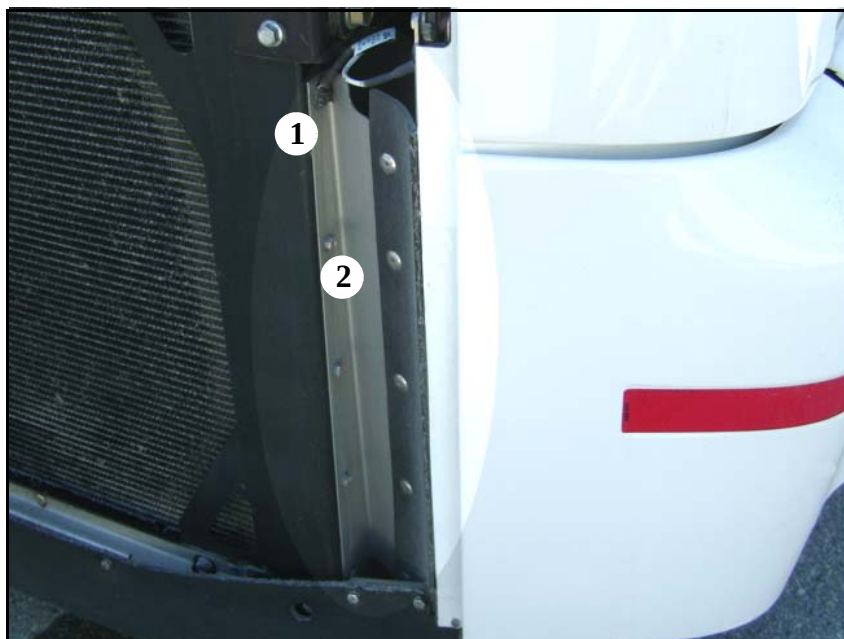

Figure 6. Radiator closing panel strip assembly.
15. Push to secure the radiator compartment door in the open position. Locate the closing panel strip assembly and ground cable shown in Figure 6. Remove and retain the closing panel strip assembly mounting hardware. Carefully remove the closing panel strip assembly and place aside to be re-installed at a later step in this procedure. Using a marker and tape, label the mounting hardware for re-installation.
Item	Figure 6 Description
51. Using the existing hardware, orient and mount the radiator closing panel strip assembly and ground cable shown in Figure 6.